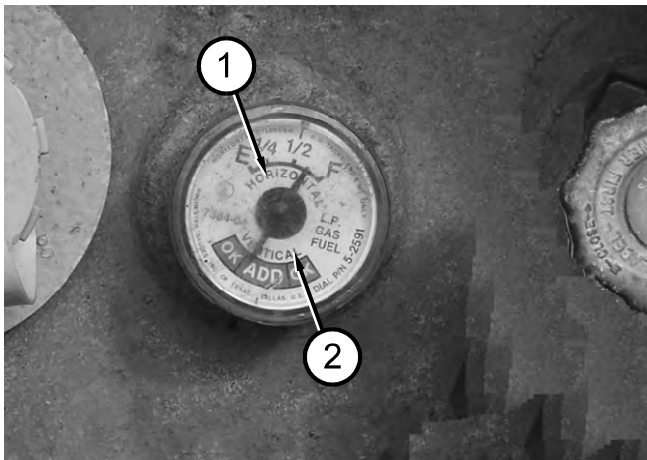

Figure 4.6 - Fuel Level Gauge
LPG tanks have two (2) fuel gauges on top. One measures correctly when the tank is standing on end (VERTICAL) the other measures correctly when the tank is laying down (HORIZONTAL) . Both read in fractions-of-a-full-tank. (see Figure 4.6).